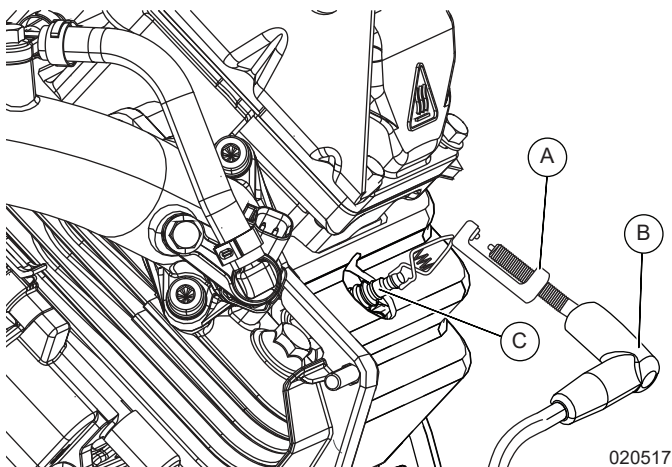

Figure 7-1. Spark Tester on Engine (Typical)
1. See Figure 7-1. Install a spark tester (A) (Generac part number 0C5969) between spark plug lead (B) and each spark plug (C) as shown. Set spark tester to a 10 kV gap. Test each plug separately if only one spark tester is available.